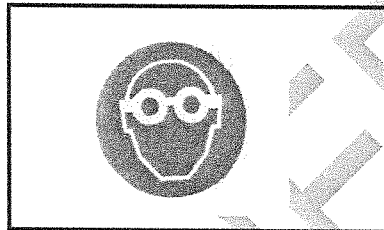

FIGURE 2
1.3 FIGURE 2 below shows various signs.